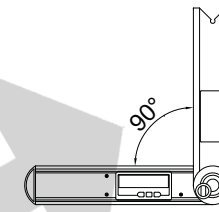
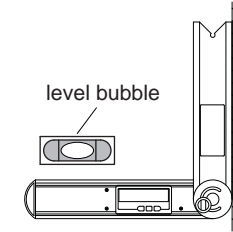

Fig.5
Fig.6
- b. Check vertical: Set the angle 90° (Fig.5), check the vertical follow the Fig.6.